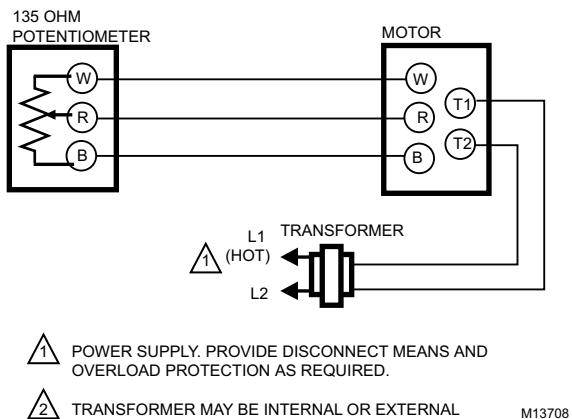

Fig. 6. Wiring for Potentiometer Control
3. Connect a remote potentiometer to the motor as shown in Fig. 6 (R-W-B).